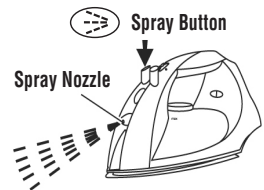

FIGURE 9
2. Aim the Spray Nozzle at the desired target, and then firmly press the Spray Button (see FIGURE 9). It may be necessary to press the Spray Button 2-3 times successively to release the initial spray of water.